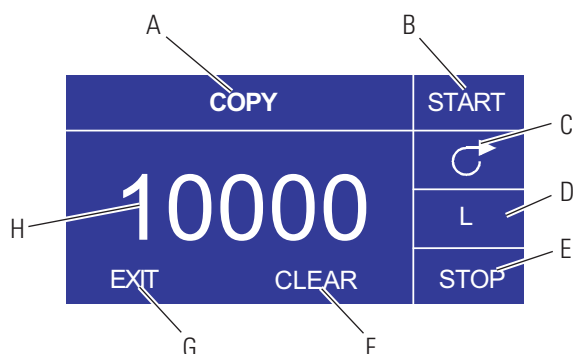

Figure 3-8. Copy Setting Screen
- D. **Copy Amount Screen:** See *Copy Setting Screen*, Figure 3-8.